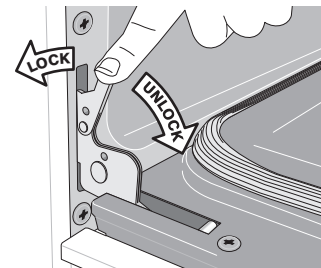

Figure 11: Door hinge locks
2. Pull the door hinge locks on both left and right door hinges down from the oven frame completely towards the oven door (See Figure 11). A tool such as a small flat-blade screwdriver may be required.
4. Push the door hinge locks up towards and into the oven frame on both left and right oven door hinges to the locked position (See Figure 11).